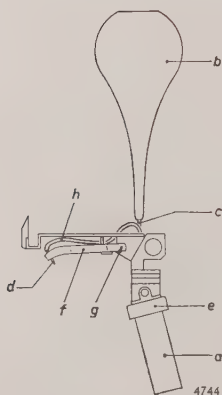

Fig. 27. Recording system
a. Filling the ink container (13), see Fig. 27
b. Cleaning the capillary (Fig. 27).